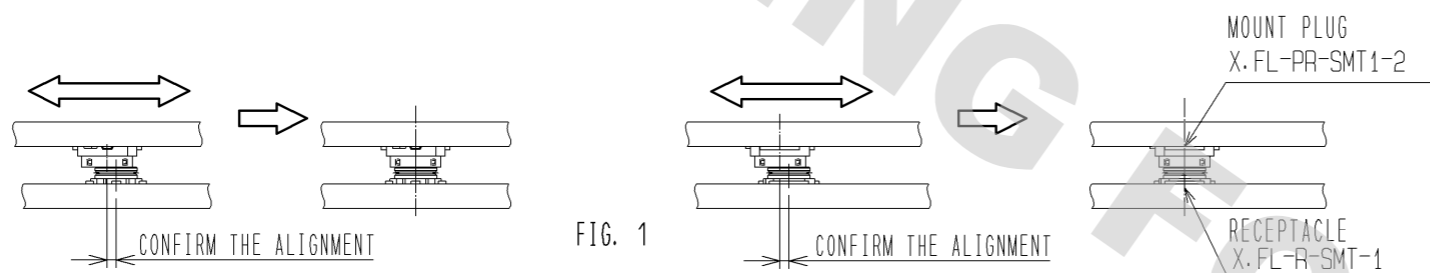

FIG. 1
1) Align mount plug (X.FL-PR-SMT1-2) and receptacle (X.FL-R-SMT-1) by slight touch as shown on fig. 1.